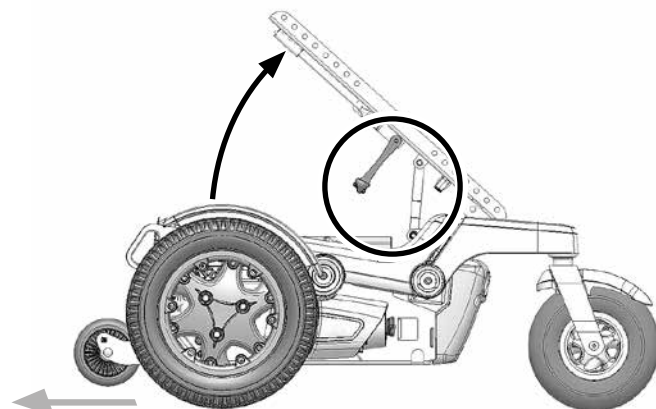

Fig. 6.8
- Ensure the seat is secured with the seat stay in place, before letting go, (Fig.6.7 Front - Fig.6.8 Rear - Fig.6.9 Hybrid).